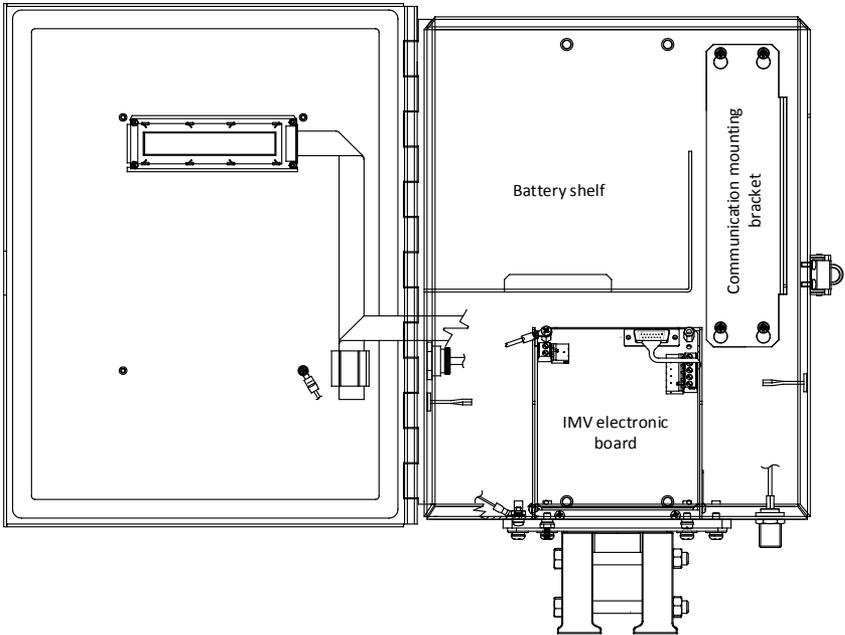

Figure 10: μ FLO^{G5} enclosure inside view
1. Open the hinged door on the flow computer and visually locate the battery compartment (Figure 10).